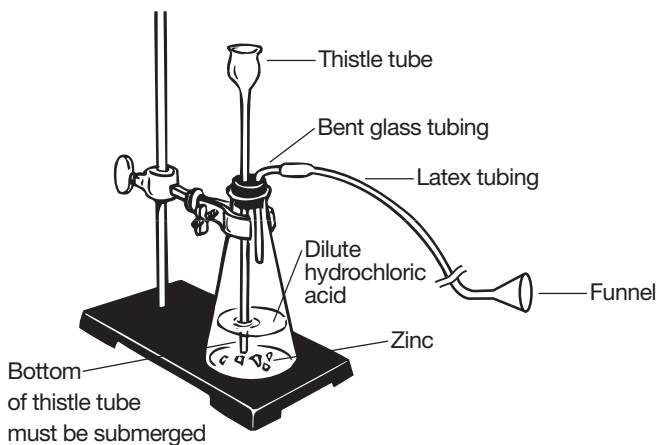

Figure 1. Gas generator
- Set up the gas generator as shown in Figure 1. Carefully insert one end of the bent glass tubing through a two-holed rubber stopper. Attach latex or plastic tubing to the free end of the glass bend. Insert a small funnel into the other end of the latex or plastic tubing. Insert the stem of a thistle tube or long stem funnel through the other hole in the stopper. Make sure the stem will be close to the bottom of the flask when the stopper is inserted into the neck of the flask. Place 20 grams of mossy zinc in the